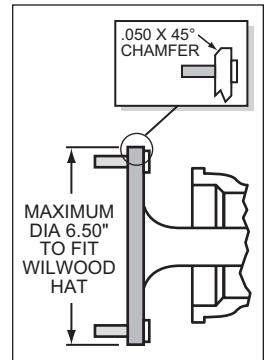

Figure 3. Axle Flange Maximum Dimension
- Maximum axle flange diameter must be no larger than 6.50" w/.050" x 45° chamfer (see Figure 3).